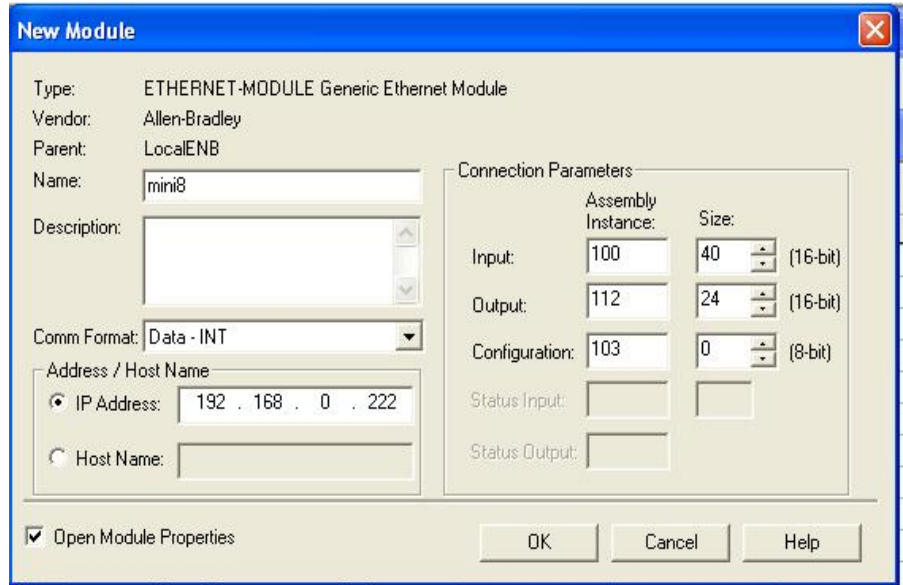

Figure 10-12: New Module
- In the New Module page that appears (Figure 10-12), enter a name for the module, and set Connection Parameter values:
6. Ensure Input and Output Size of EtherNet Module match exactly the Input and output Definitions (see Figure 10-12 New Module).
7. Ensure Assembly Instance values are supported by the mini8 controller (see Figure 10-12 New Module)